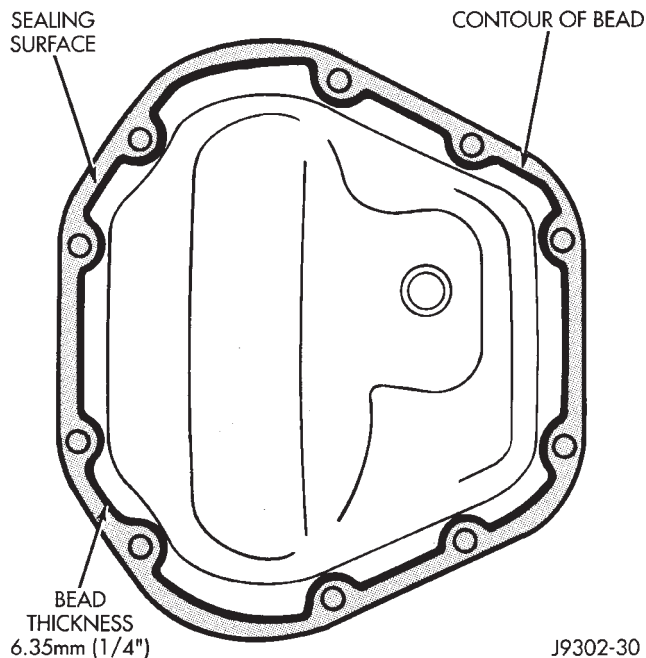

Fig. 38 Typical Housing Cover With Sealant
(1) Scrape the residual sealant from the housing and cover mating surfaces. Clean the mating surfaces with mineral spirits. Apply a bead of Mopar® Silicone Rubber Sealant, or equivalent, on the housing cover (Fig. 38).